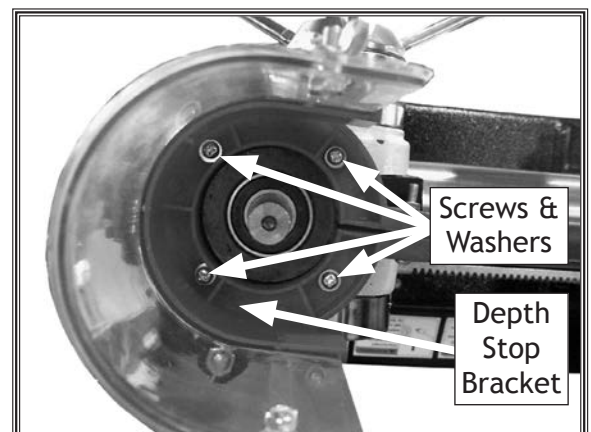

Figure 23. Chuck guard secured to depth stop bracket.
23. Secure chuck guard to bracket with (4) M4-.7 x 10 Phillips head screws, 4mm lock washers, and 4mm flat washers, as shown in **Figure 23**.